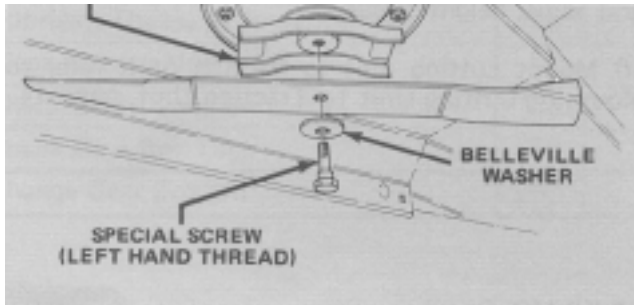

Figure 30
- Grasp end of blade using a rag or thickly padded glove. Remove special screw, belleville washer and blade from spindle assembly (Fig. 30).